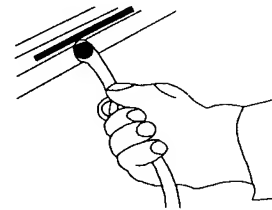

Fig. 4
- c. Firmly pull on the end of the yellow shipping strap that is attached to the bottom of the back of the washer. (Fig. 4) This will release the self-leveling leg mechanism.